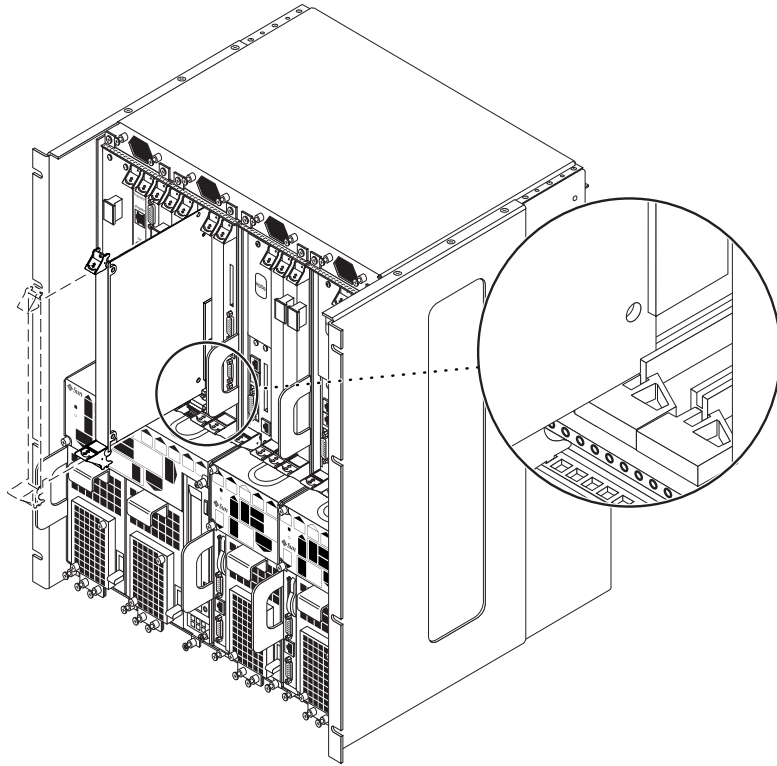

FIGURE 10-4 Aligning the Card with the Card Cage Cutouts
The teeth in the handle of the card must align with the square cutouts in the I/O slot. When the card is completely seated in the card cage, the two ejection levers should flip inward, and the teeth in the ejection levers should fit smoothly in the rectangular cutouts in the bottom and top plates. FIGURE 10-4 shows how to insert an I/O card into a slot; the same principal applies to a CPU card.
a. Keeping the card vertical, slide the card into the slot in between the two guides (FIGURE 10-4 on page 10-7).
The teeth in the handle of the card must align with the square cutouts in the I/O slot. When the card is completely seated in the card cage, the two ejection levers should flip inward, and the teeth in the ejection levers should fit smoothly in the rectangular cutouts in the bottom and top plates. FIGURE 10-4 on page 10-7 shows how to insert an I/O card into a slot; the same principal applies to a CPU front transition card.